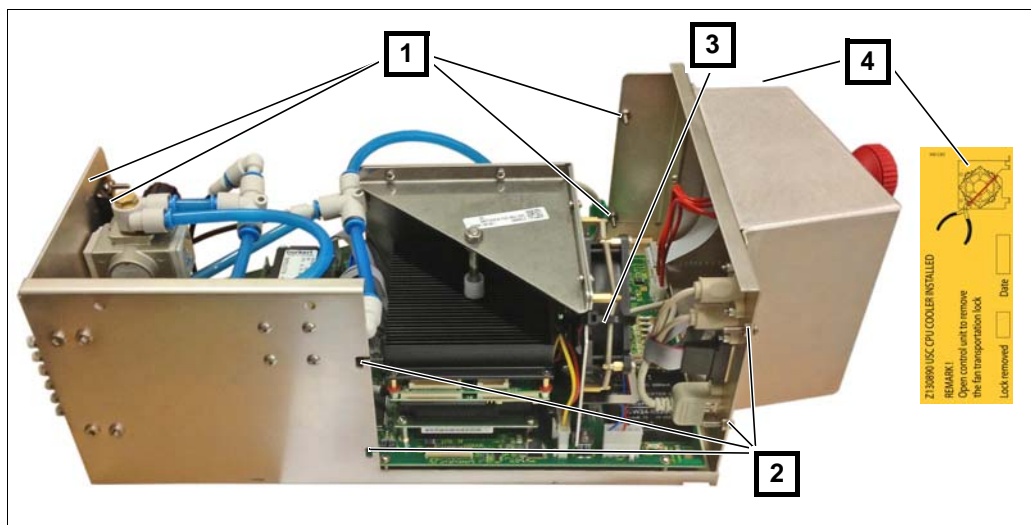

Figure 3.20 The Open Control Unit with the Transportation Lock
23. Open the control unit by un-tightening 8 screws (see [Figure 3.20 \[1\]\[2\]](#)) on both sides.
24. Cut the cable tie (see [Figure 3.20 \[3\]](#)) that secures the fan and remove it {Tool: Side cutter}.
27. Mark the sticker on the side of the control unit (see [Figure 3.20 \[4\]](#))